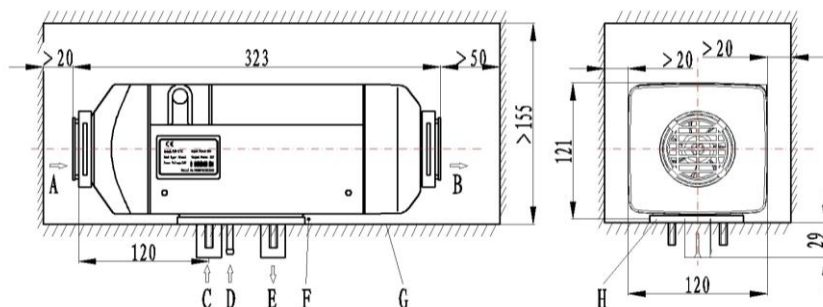

Fig. 8
4.2.2 For convenience of heating air flow and installation, maintenance of the main heater, enough space must be provided for installation. Please refer to the scope of double dot line for the space for installation, as shown in Fig. 8.
Please make sure that there is not any interference objects in the gap between the bottom surface of the main heater and the installation surface of the vehicle (Fig. 8-F).
4.2.3 Good sealing is necessary between the main heater and the installation surface on the vehicle. A special gasket (as shown in Fig. 8) supplied by the manufacturer must be inserted in between during installation. The installation surface must be smooth and steady enough. Its parts at the installation bases of the main heater shall have unevenness of less than 1mm. After drilling installation holes, evenness must be improved according to this requirement. At installation, please rotate the four M6 nuts, which provided by the manufacturer should be tightened. The torque for tightening shall be  $6\text{Nm}+1\text{Nm}$ .